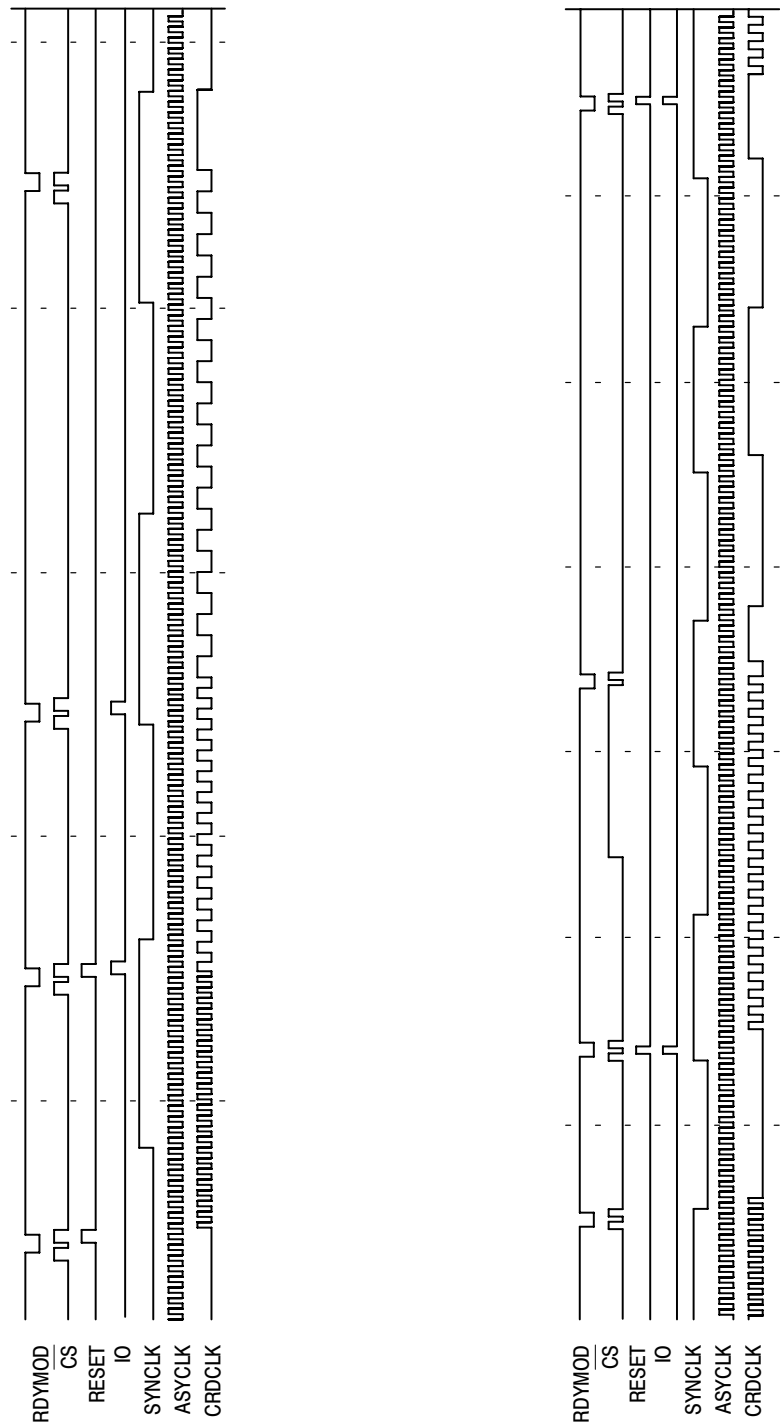

Figure 29. "On-the-Fly" Card Clock Selection Examples
Clock Signal Synchronization and Consistency (Figure 29). The clock divider includes synchronization logic that controls the switch from synchronous clock to asynchronous (and vice-versa), from any division ratio to any other ratio, during $\overline{CS}$ changes and at powerup. The synchronization logic guarantees that each clock cycle on the **CRDCLK** pin is finished before changing clock selection (and has always the adequate duration), regardless of the moment the programming is changed.
- Consistent clock signal, even when division ratio or synchronization clock signal are changed “on the fly” during a card session (Figure 29)